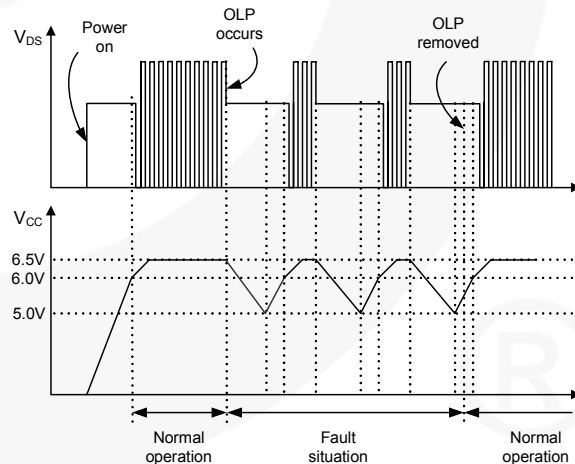

Figure 17. Auto Restart Protection Waveforms
**3. Protection Circuits:** The FSQ500N has two self-protective functions: overload protection (OLP) and thermal shutdown (TSD). While OLP is implemented as auto-restart mode, there is no switching when TSD triggers. Once the overload condition is detected; switching is terminated, the senseFET remains off, and HV/REG turns off. This causes  $V_{CC}$  to fall. When  $V_{CC}$  falls below the under-voltage lockout (UVLO) stop voltage of 5.0V, the protection is reset and the startup circuit charges the  $V_{CC}$  capacitor. When  $V_{CC}$  reaches the start voltage of 6.0V, the FSQ500N resumes its normal operation. If the fault condition is still not removed, the senseFET and HV/REG remain off and  $V_{CC}$  drops to  $V_{STOP}$  again. In this manner, the auto-restart can alternately enable and disable the switching of the power senseFET until the fault condition is eliminated, as shown in Figure 17.